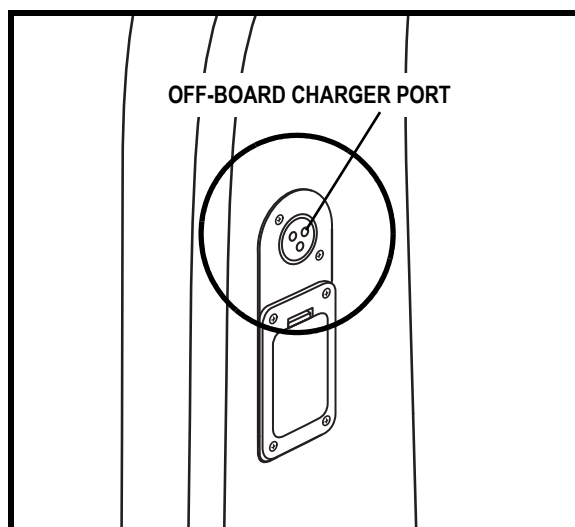

Figure 5. Off-board Charger Port
The off-board charger power cord plugs into this port when charging the batteries. See figure 5.
4. Plug the 3-pin charger power cord into the off-board charger port. See figures 5 and 12.